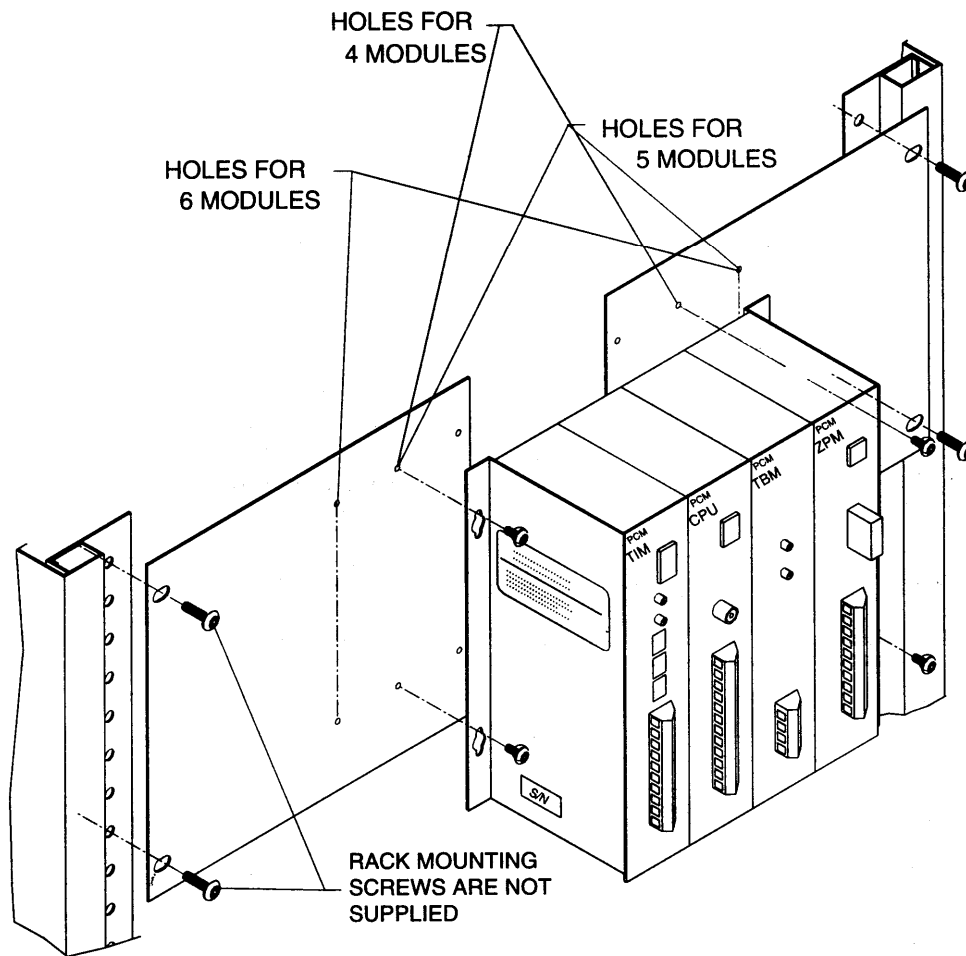

Figure 3-1: Rack Mounting the LUPCMALL Paging Control System
1. Position the left side of the completed PCM assembly (any additional PCMZPM modules should have already been added) over one of the rack mounting adapters. Refer to Figure 3-1 and use the correct holes for the number of modules in the assembly (4, 5, or 6 as shown).